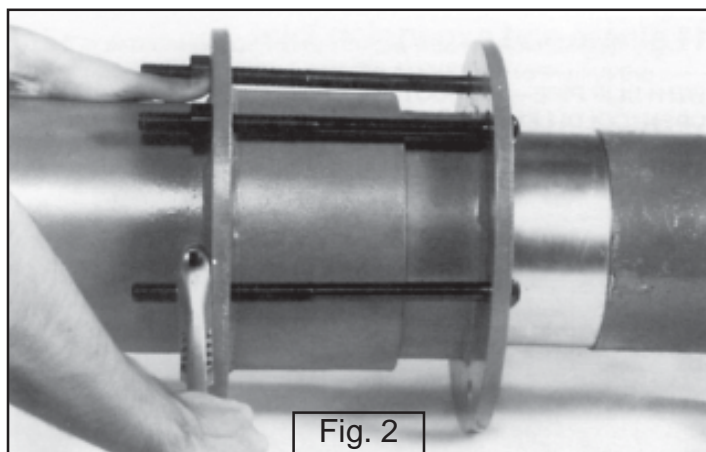

Fig. 2
- 5) Tighten the packing gland bolts evenly alternating from side to side to advance the packing gland evenly. Apply only sufficient torque to prevent leakage. Over-tightening can cause premature packing wear. (see fig 2)